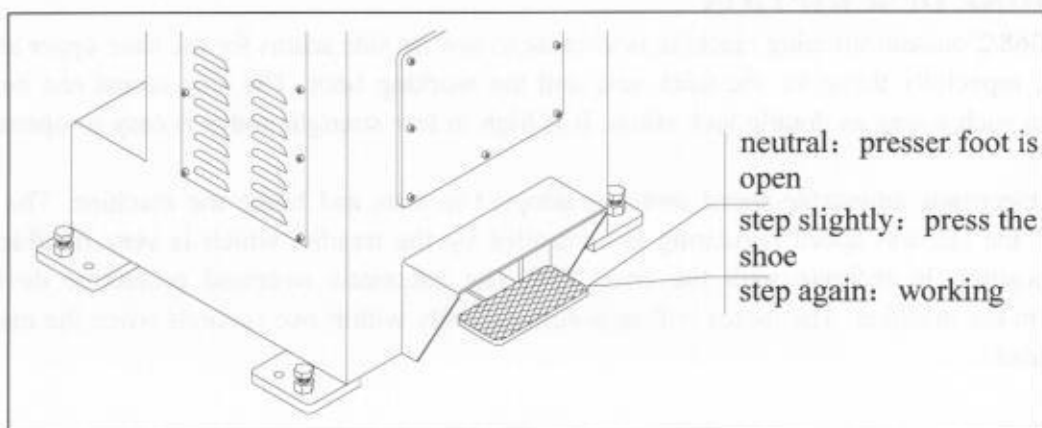

Fig.1
- 3.3 Operate the start pedal. (Fig.1)